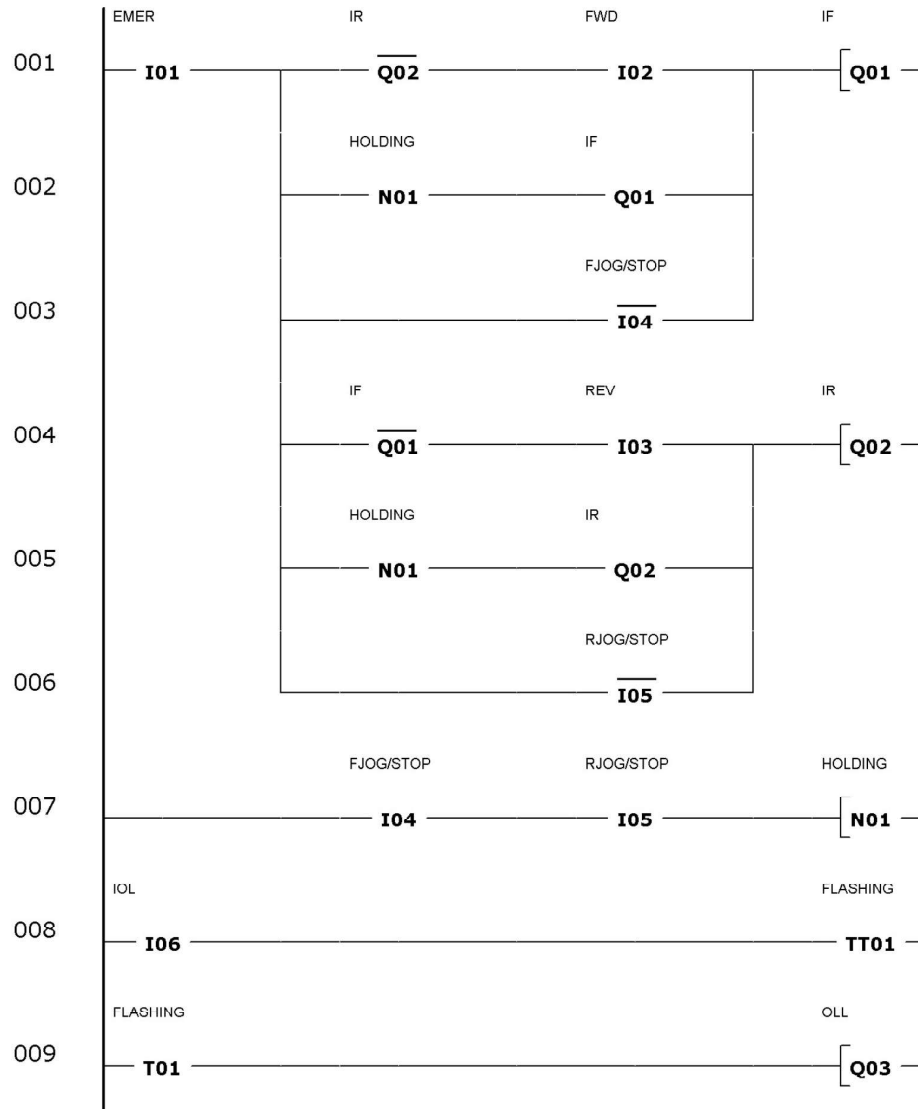

Figure 2-14. Reversing motor starter with jogging and overload indicator ladder program.
In the second part of the exercise, you will add a pilot light that uses the NO contact of the Overload Relay module to indicate the overload condition of the circuit. Figure 2-14 represents the new ladder program including an input for the NO contact of the Overload Relay module and an output for the pilot light. A timing relay is added to the program to make the pilot light flash.
Enter the program shown in Figure 2-14, with the following timing relay (T1) parameter values:
3. Why is the circuit of Figures 2-14 and 2-15 likely to restart automatically, following an overload?
4. In Figure 2-14, which PLC input triggers the flashing timing relay?